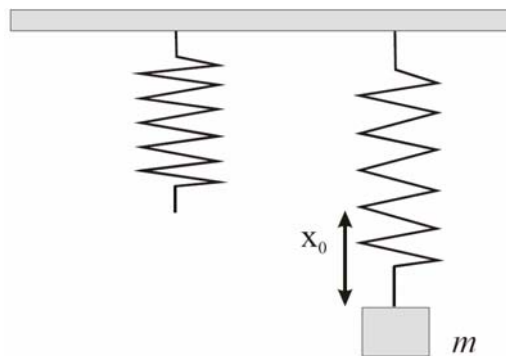

Fig. 1. A mass on a spring in the gravitational field of Earth
6. Show by using Hooke's Law that a stationary mass m hanging from a spring with constant k (Fig. 1) stretches the spring to a new equilibrium position $x_0 = \frac{mg}{k}$.
7. Confirm by substitution that Eq. (7) indeed solves Eq. (6).
8. Show that when $\beta=0$ (no damping), Eq. (7) reduces to Eq. (3).